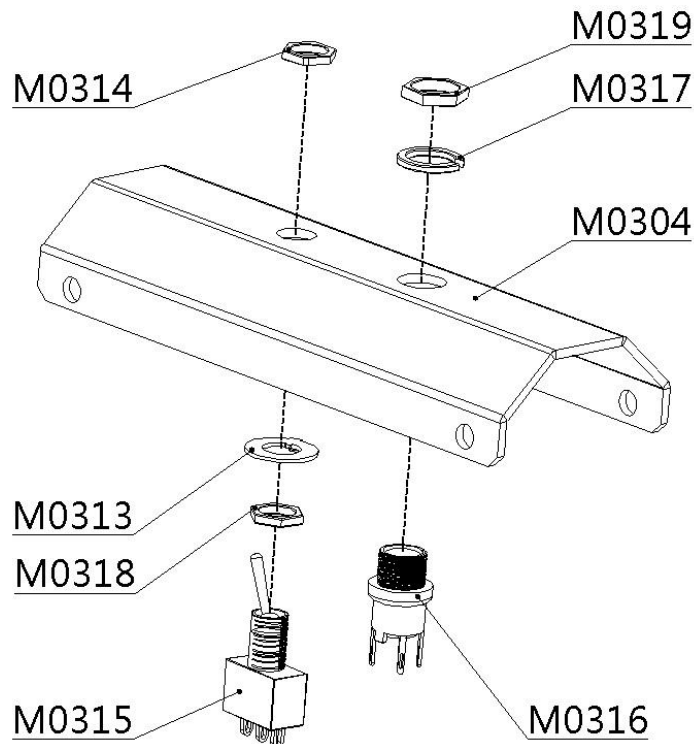

Figure 4-3
6. Figure 4-3; before assembly the power switch and power jack, you should solder the wires to the switch and jack. Please leave at least 10-15 cm of wire in order to install to battery holder and Romeo. Remember red for positive, black for negative.
7. Please install the power switch and power jack on the bezel as pictured above in figure 4-3.